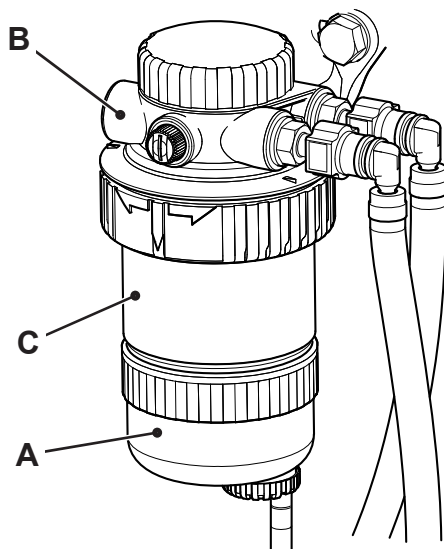

Fig 18.
- 4 Unscrew the sediment bowl **A** from the filter **C** and wash the bowl. Use clean fuel. ⇒ Fig 18. \(□ 3-38\)